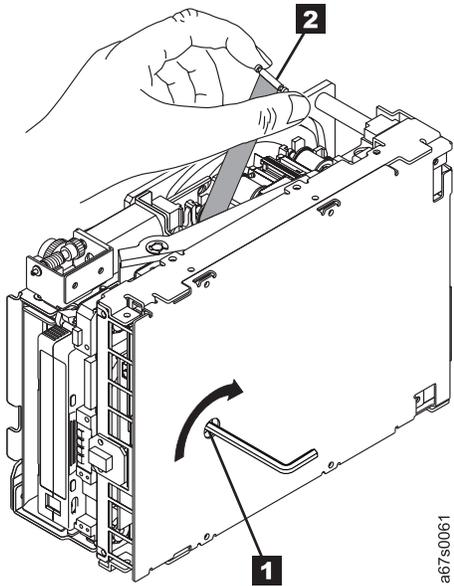

Figure 171. Rewinding Leader Pin into Tape Cartridge
12. Being careful not to allow the leader-pin block to contact and damage the head, use clean, needle-nose pliers to grasp the end of the leader pin, if necessary. Pull the leader pin out of the leader-pin block so that you can grip it with your fingers (see **1** in Figure 171).